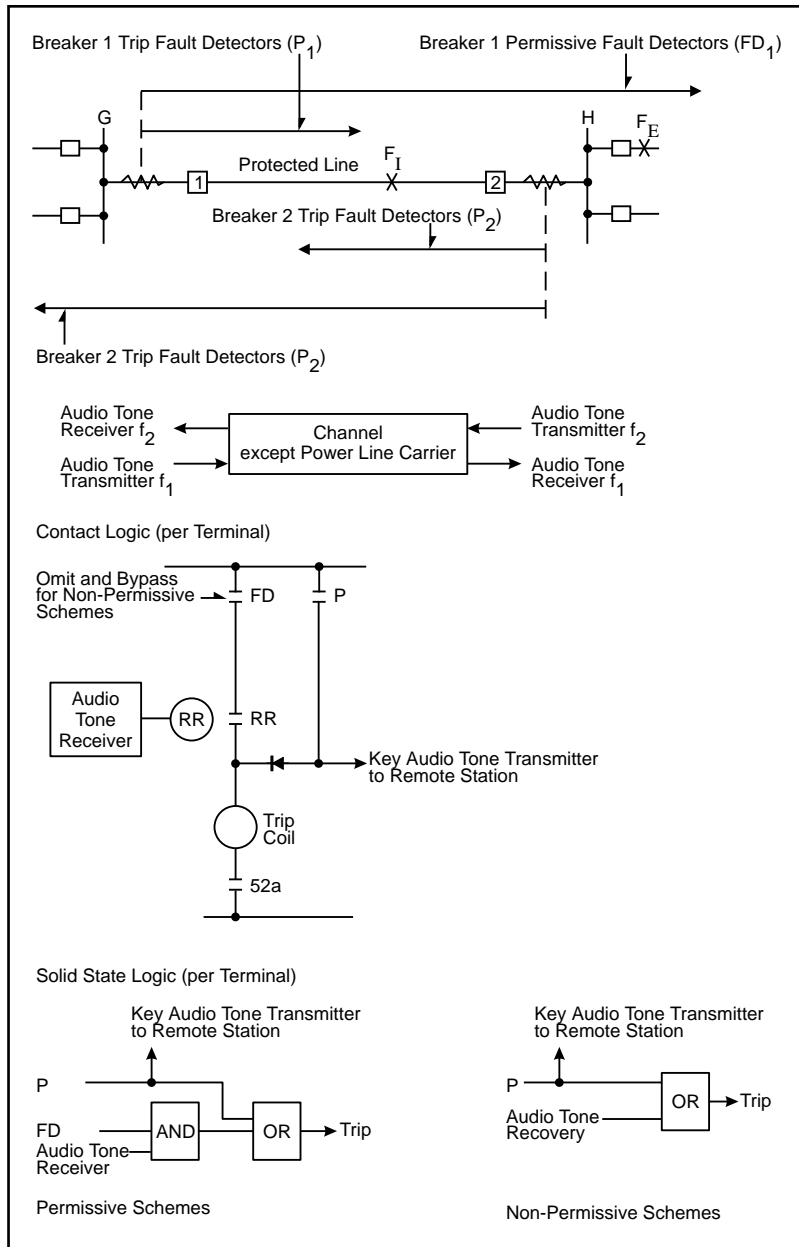

Figure 2-4. Basic Logic Diagrams for Underreaching Transfer Trip Systems.
For overreaching systems, the directional phase and ground trip fault detectors (P) must be set to overlap within the transmission line and not overreach any terminals (see Figure 2-4).
Though it is the least complex, the non-permissive system is rarely used because of the high potential for false outputs from the channel, which would cause incorrect tripping. If a non-permissive system is used, the channel considerations should be as described later for direct trip systems. The system is made permissive by the additional set of phase and ground overreaching fault detectors (FD), which must operate for all internal faults (see Figure 2-4).
Operation of the underreaching transfer trip scheme shown in Figure 2-4 is described in Table 2-2 for external and internal faults.